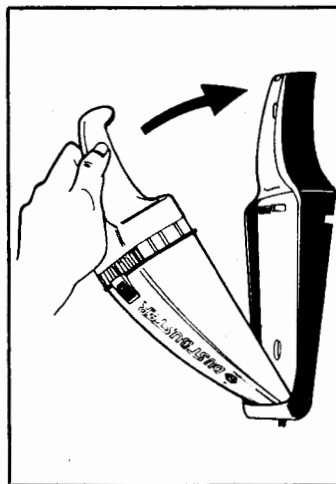
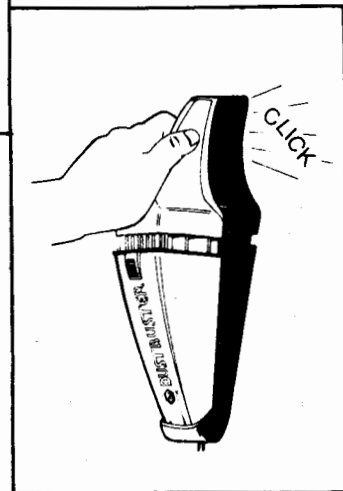

Fig. 4
Fig. 5
1. Place the **Dustbuster** into the charging bracket by first putting the nozzle end into the recess at the lower end of the bracket (Figure 4). Then push the handle end of the unit into the bracket until you hear an audible click (Figure 5).